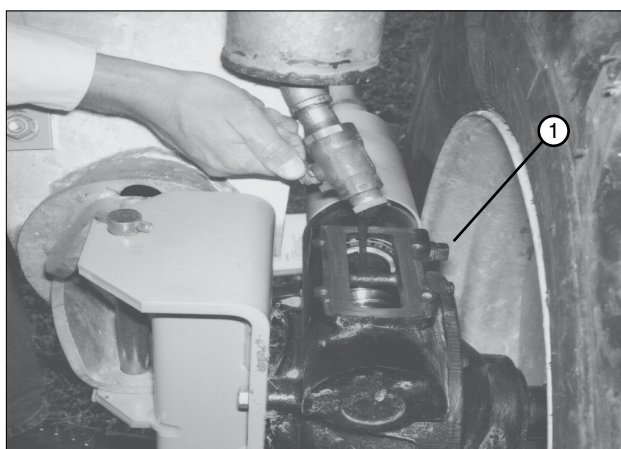

Figure 86-3 1. Check Plug
- Fill gearbox to the top of worm gear shaft or remove the check plug and fill until the oil begins to flow out of the check plug hole. See figure 86-3.